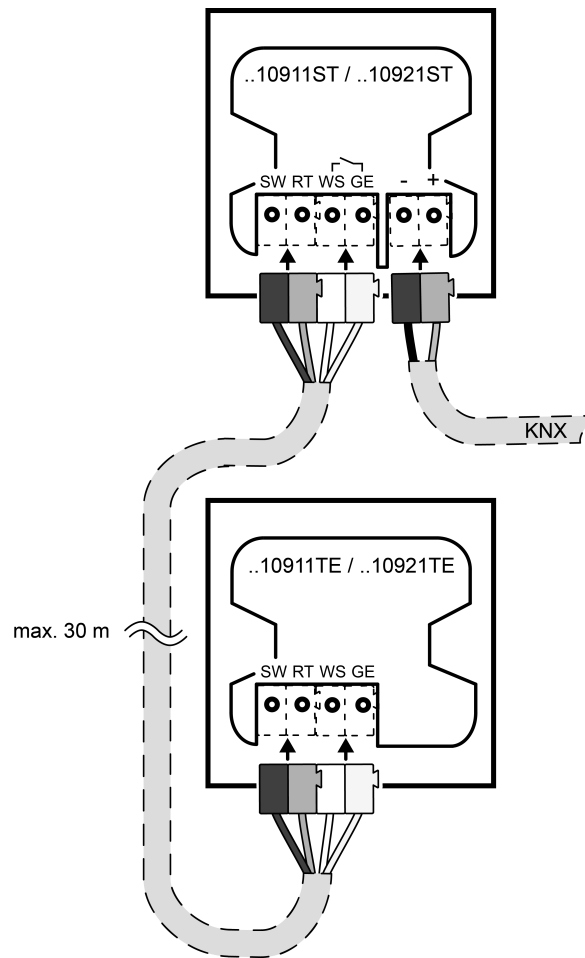

Figure 4: Connecting push-button extension
- Optional: Connect Push-button extension (see accessories) to connection terminal (see figure 4).
Push-button extension connecting (see figure 4)